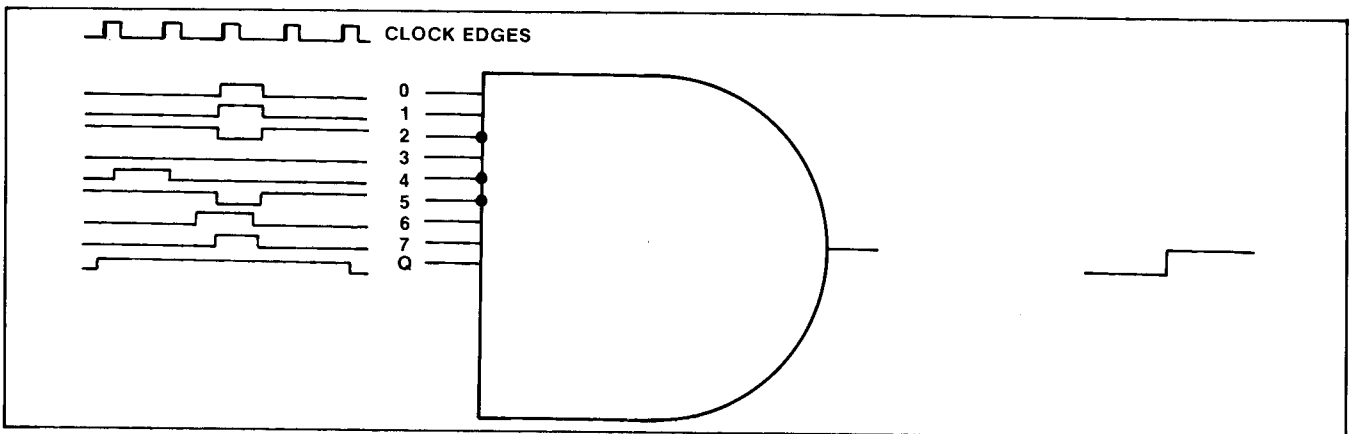

Figure 4-3. Word recognition with additional word qualifier input.
It is common to word recognize and acquire data from the same lines on the system under test. However, there are applications where one or two additional lines are needed for word recognition, that need not be acquired and displayed. These lines are referred to as word-qualifier inputs. As can be seen in Figure 4-3, the extra line (Q) effectively extends the width of the word recognizer. This line is not acquired for display.